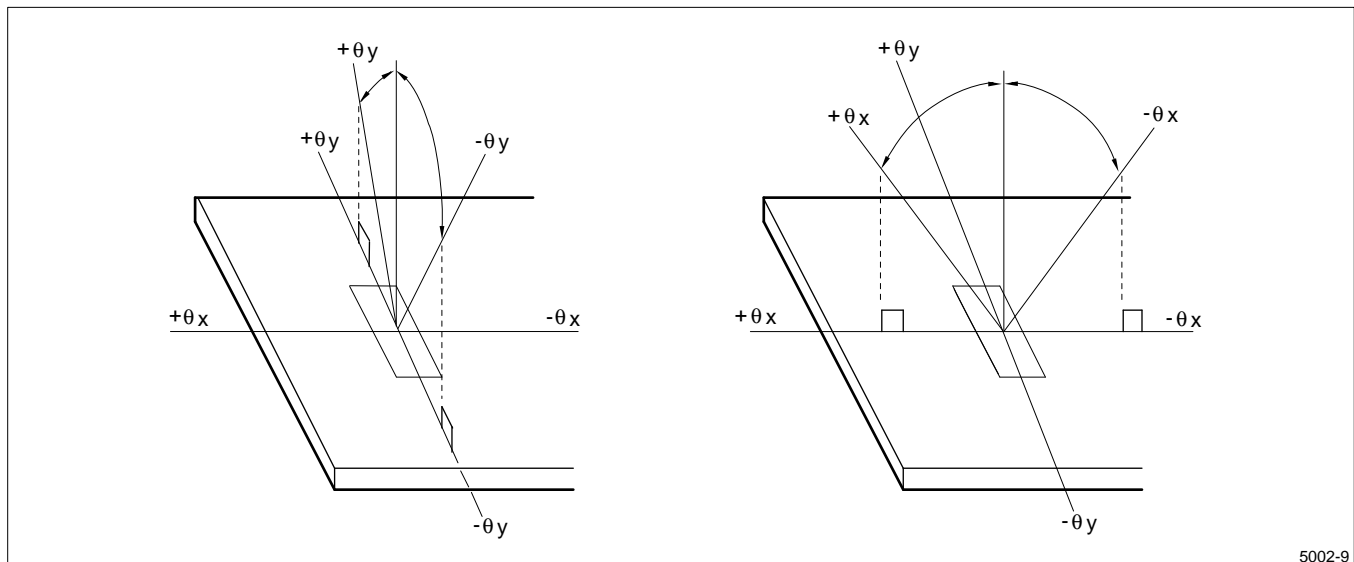

Figure 7. Definition of Viewing Angle
- The viewing angle is defined in Figure 7.